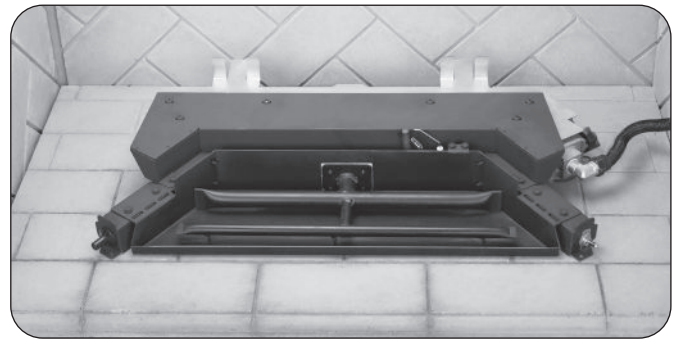

Fig. 9-2 Position burner pan in fireplace
3. Place the burner system in the fireplace. Center the burner from left to right, and position as far back in the fireplace as possible. See Fig. 9-2.
Important: Ensure the pan is properly placed per step 3, and rests level on the fireplace floor. Adjust if necessary. See Fig. 9-2 and 9-3.